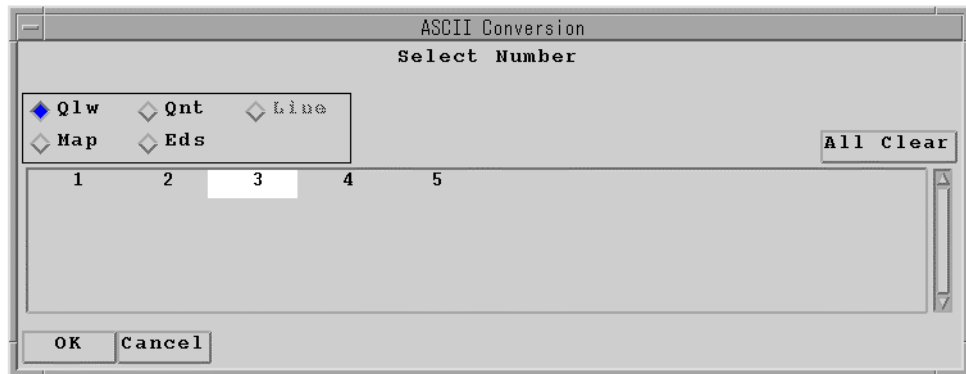

Fig. 7 Select Number window
The **Select Number** window opens as shown in Fig. 7.
5. Specify the software for the measured data to be converted and the number of the stage position (see Fig. 7), and click on the **OK** button.